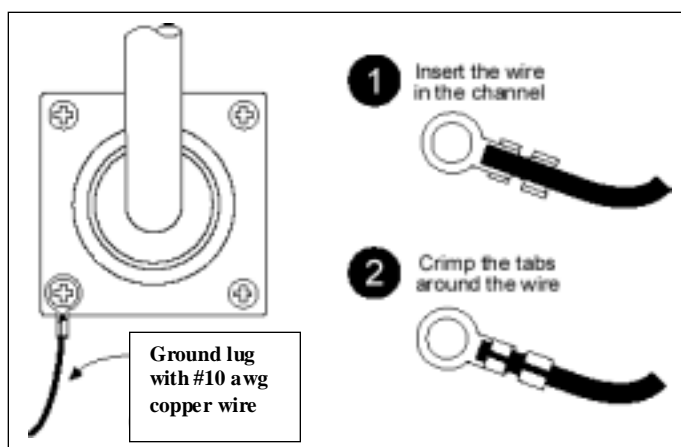

Figure 6-16 Mounting Pole with Ground Lug
10. Attach a grounding clamp to the grounding rod. You will use this clamp to attach grounding wires for both the outdoor transceiver and indoor junction box, reference Figure 6-16.